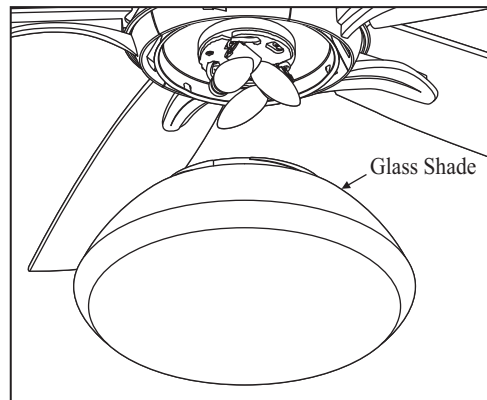

Figure 22
5. Raise glass shade up against the light kit and secure it to fan by turning glass counterclockwise until snug. DO NOT OVERTIGHTEN. (Fig. 22)